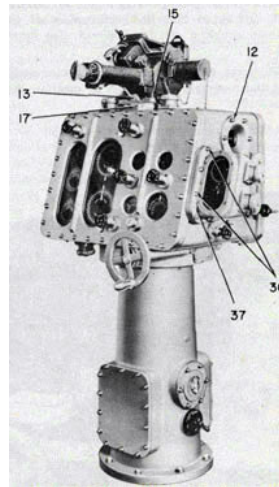

Figure 105-Removal of Telescope and Bearing Receiver.
Telescope. Figures 105 and 107.
bearing receiver cover by withdrawing the four studs and the five bolts with cap screws. See figure 105.
37. Pry cover partially away from the case but allow it to rest on dowel pins. When cover is loose, remove wires L20 and L21 from terminal block in receiver. Now, finish removing the bearing receiver cover. See figures 105 and 110.